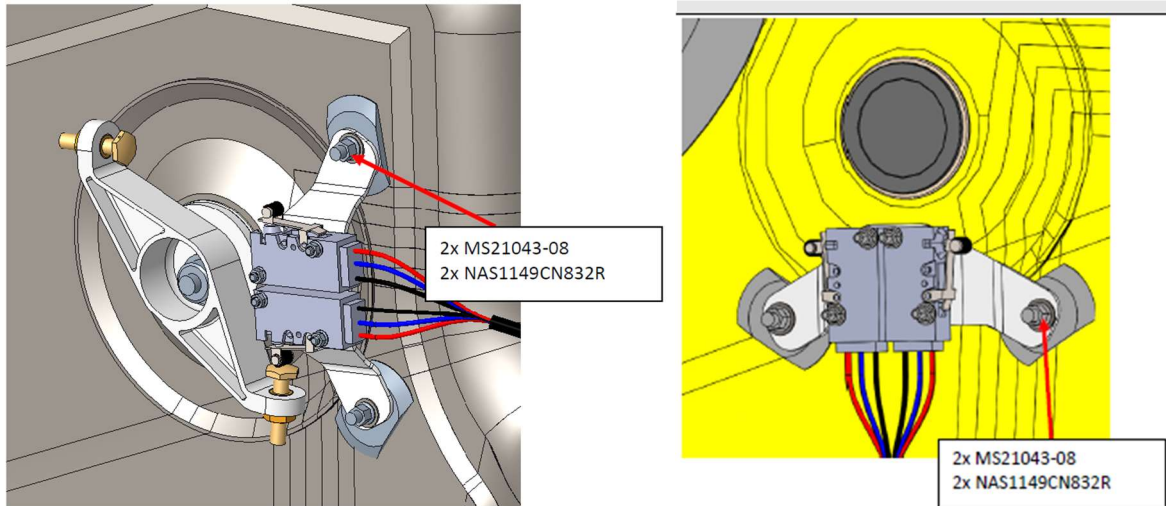

Figure 11. Installed limit switch subassembly; (1.0 config: Orient as shown on right)
16. Install limit switch assembly onto studs with 2x MS21043-08 nuts and 2x NAS1149CN832R washers as shown in **Figure 11** below. Torque locknuts to 14 in-lbs.